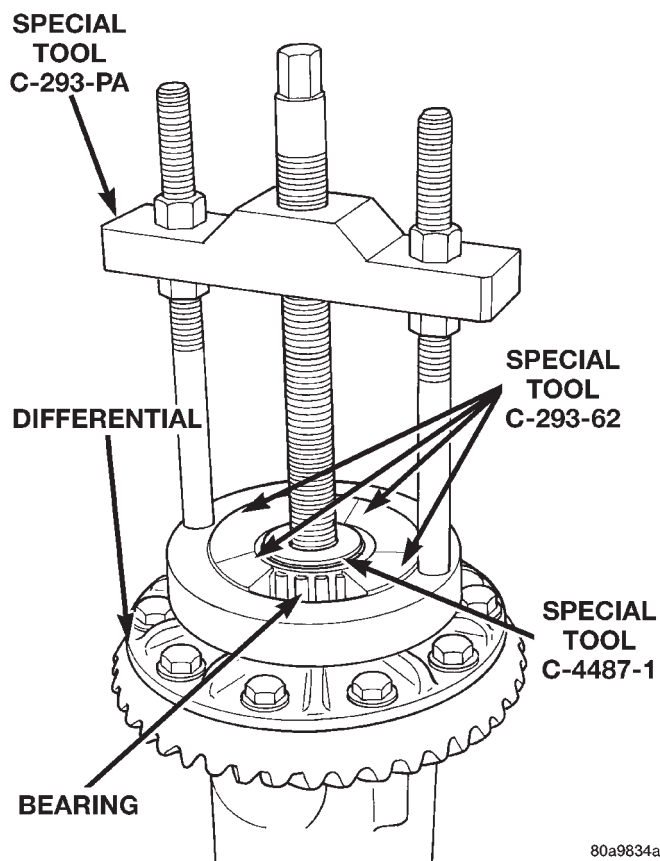

Fig. 15 Differential Bearing Removal
- (1) Remove differential case from axle housing.
- (2) Remove the bearings from the differential case with Puller/Press C-293-PA, Adapters C-293-62, and Step Plate C-4487-1 (Fig. 15).